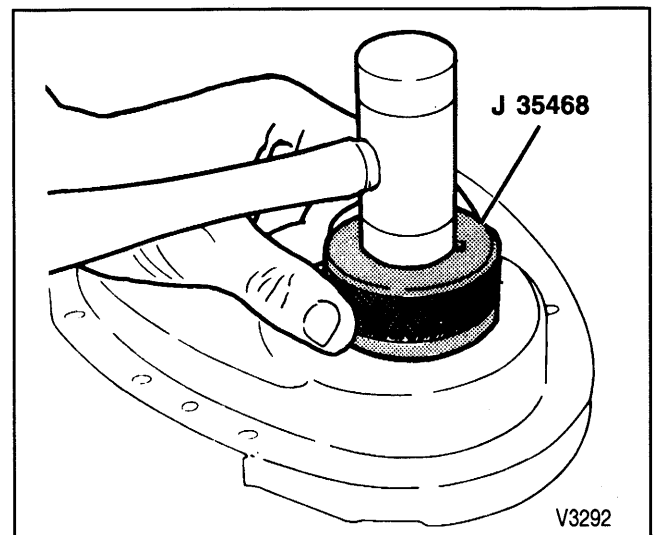

Figure 23—Installing the Crankshaft Front Seal
Install or Connect (Figure 23)
1. Crankshaft front oil seal. Use J 35468 (figure 23). The open end of the seal faces inside the engine. Coat the seal lips with engine oil.